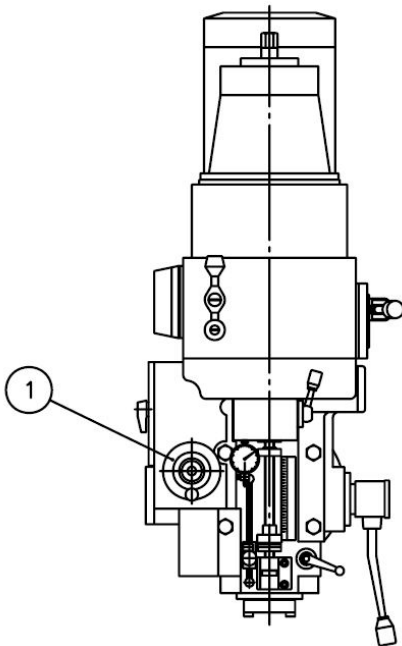
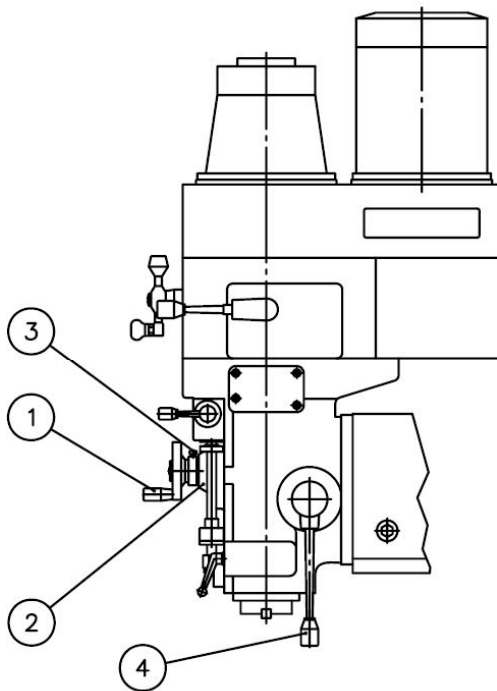

Fig.11
Fig.12
There are two types of manual vertical spindle adjustment, namely, adjustment by hand wheel (Fig.11 (1)) and rapid adjustment by the main vertical spindle adjustment lever (Fig.12 (4)).
For general milling, the hand wheel for the vertical spindle adjustment should be used. The handle wheel for the vertical spindle adjustment is providing with a scale collar (Fig.12 (2)).
A full rotation of the collar denotes 3mm of feed and rotation per one division is 0.02mm of feed. If the scale collar is locked at an operational position with the clamping screw (Fig.12 (3)), the vertical feed amount can be read easily.